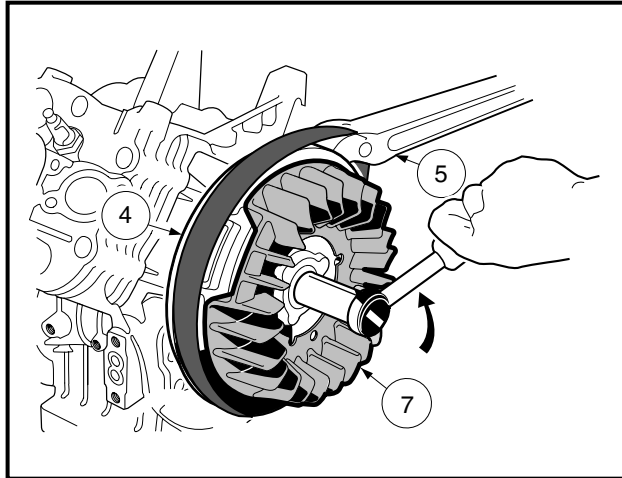

Figure 13-7 Flywheel Nut Removal
4. Hold the flywheel (4), **not the fan** (7), with a strap wrench (5) and, use a 25 mm socket to remove the flywheel nut (and flat washer) by turning it counterclockwise (Figure 13-7, Page 13-7). See following CAUTION.